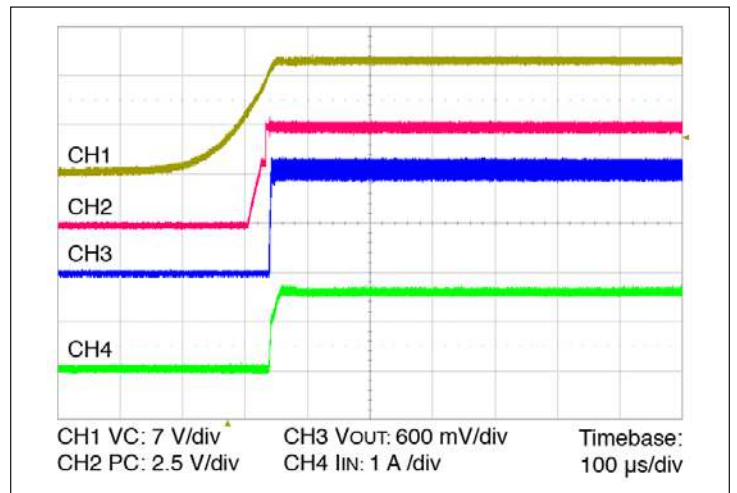

Figure 14 — Start up from application of VC; V_{IN} pre-applied $C_{OUT} = 0 \mu\text{F}$
- **Stand Alone Operation (VC applied after V_{IN}):** In this case the module output will begin to rise upon the application of the VC voltage (See Figure 14). The Adaptive Soft Start circuit (See Section 10) may vary the output rate of rise in order to limit the inrush current to its maximum level. When starting into high capacitance, or a short, the output current will be limited for a maximum of 900 µsec. After this period, the adaptive soft start circuit will time out and the module may shut down. No restart will be attempted until VC is re-applied, or PC is toggled. The maximum output capacitance is limited to 5000 µF in this mode of operation to ensure a successful start.